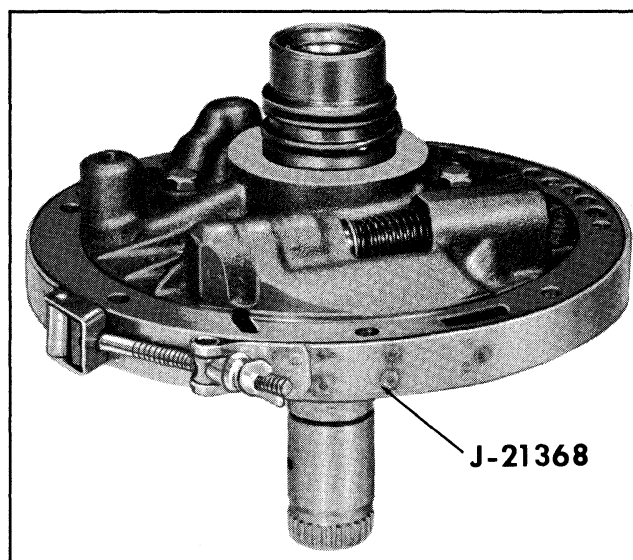

Fig. 7B-114 Aligning Oil Pump and Cover
5. If previously removed, install cooler by-pass (V-8 only) and lube blow-off valve springs, valves, and valve seats. Using tool J-21558, press valve seats into pump body bores until tool bottoms on face of pump (Fig. 7B-113).